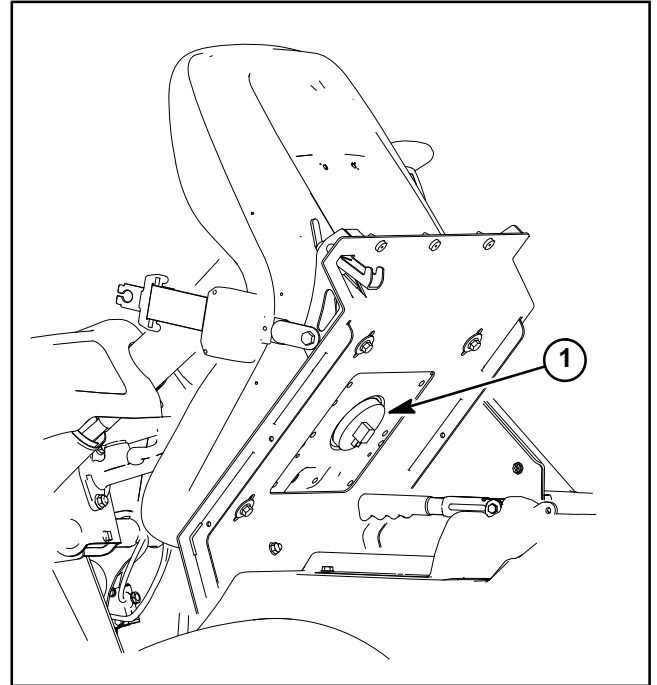

Figure 35
3. Disconnect wire harness electrical connector from the seat switch under the operator seat (Fig. 35).